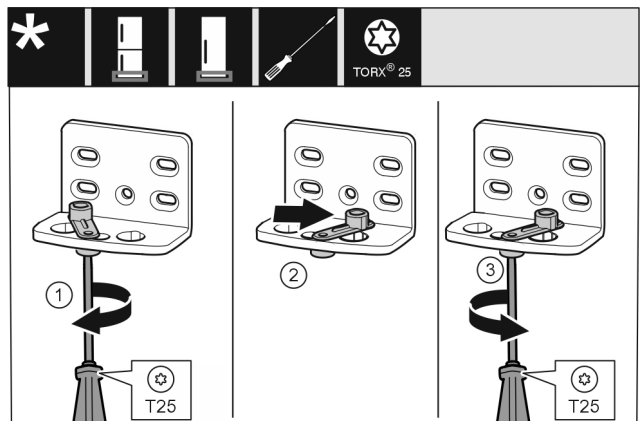

Fig. 14
- ▶ Use screwdriver to loosen the screw Fig. 14 (1).
- ▶ Lift the door closing aid Fig. 14 (2) and turn 90° clockwise in the hole.
- ▶ Tighten screw Fig. 14 (3) with screwdriver.